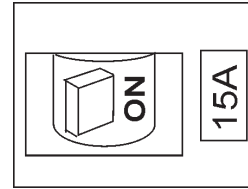

Figure 15. Main Circuit Breaker (ON)
- Place the main circuit breaker (Figure 15) in the **ON** position.